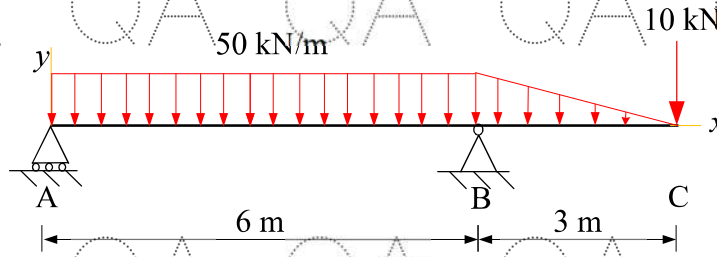

Figure. 2
4. Construct the shear-force and bending moment diagrams for the beam shown in Figure.2. Label all significant points on each diagram and identify the maximum moments along with their respective locations. Clearly differentiate straight-line and curved portions of the diagrams. [10]